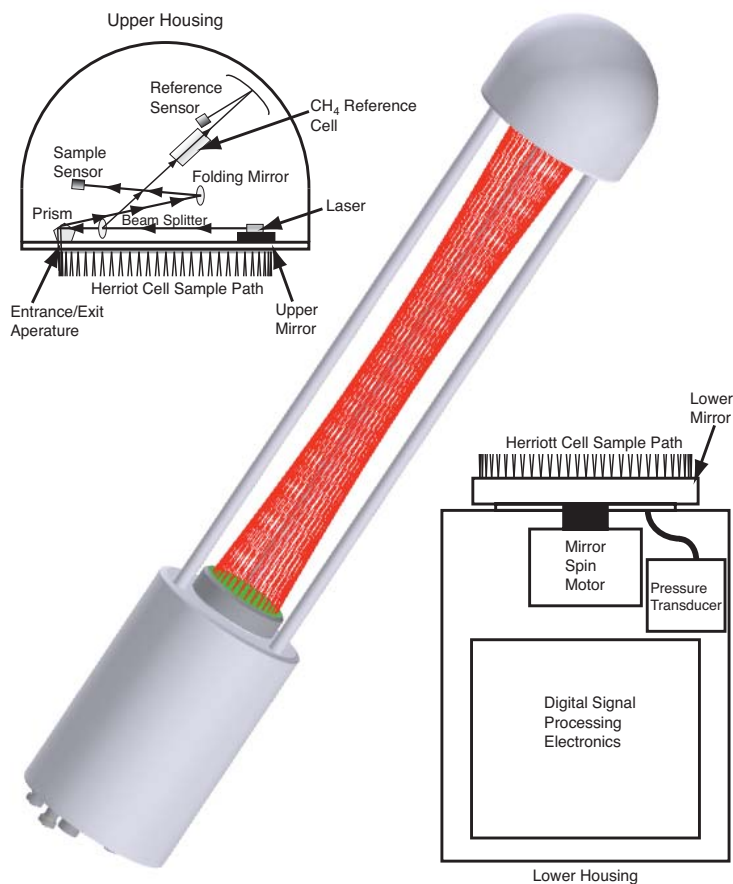

Figure 1-1. Representations of the LI-7700 upper housing (top left), Herriott cell (center), and lower housing (lower right).
Figure 1-1 shows a schematic of the LI-7700 sensor and the Herriott cell. Except for the desiccant bottle, thermocouple, and fuse, which are accessible externally, there are no user-serviceable parts in the sensor. To ensure that components are not damaged, never attempt to dismantle the sensor.
2. **Upper Housing** – encloses the laser source, sensor, and laser control electronics (see Figure 1-1).
9. **Lower Housing** – houses the digital signal processing electronics and spin motor (see Figure 1-1).